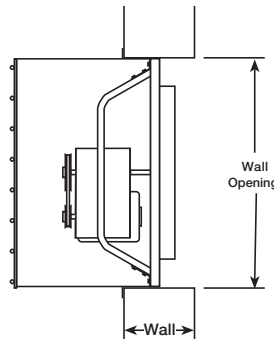

Figure 5 — Fan Inside Wall Installation With Guard Direct to Wall
- c. Figure 5 shows fan inside wall installation for exhaust fans. First mount fan inside wall. Then mount guard to wall.